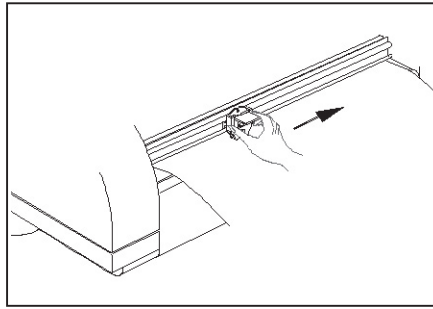

Figure 1
1. After lamination, move the cutter approximately to the center of the completed application at the desired point of detachment (Figure 1).